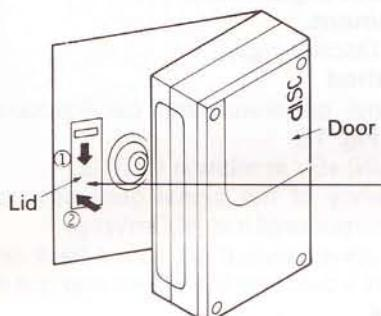

Fig. 11
- (1) Switch on the power. Press the door OPEN/CLOSE button to open the door, then switch off the power. Turn the lefthand side of the unit face down.
- (2) Just like Fig. 11 illustrates, remove the cover by pressing in the direction of the arrows with a tweezer or minus mini-driver.
- (3) Use the tweezers to remove the belt.
- (4) To put on the belt, put it over the motor axle by using the tweezers and then over the motor pulley.